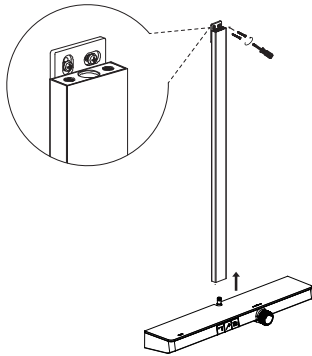

Figure 1
- d) Install the raiser rail to the thermostatic panel and screw it in the wall (Figure 1).